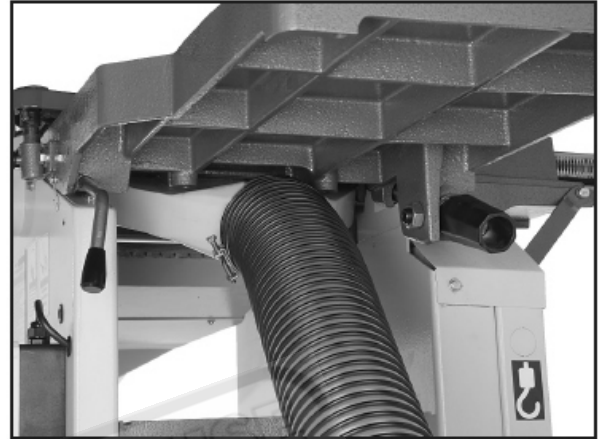
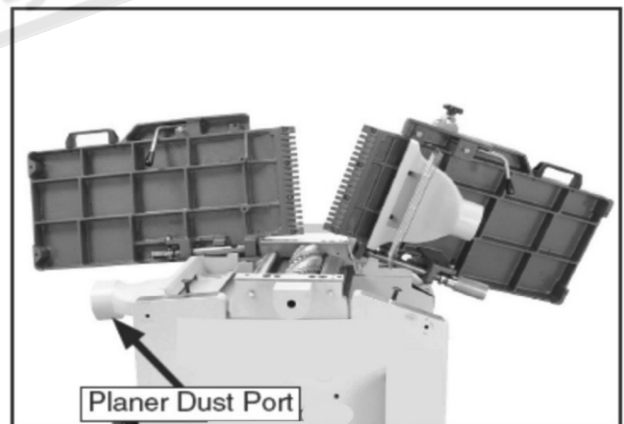

Figure 12. Dust hose attached to jointer dust port.
Figure 13. Planer dust port in "down" position.
1. Fit the 4 dust hose over the jointer dust port, (see **Figure 12**, or over the planer dust port (see **Figure 13**), depending upon which operation mode is setup, and secure in place with a hose clamp.